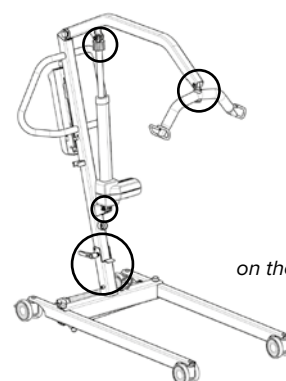

Fig. 2: Location of areas with pinch points on the SAMSOFT ELITE 180
- Pinch points of the body extremities are present in several places on the patient lift (Fig. 2).